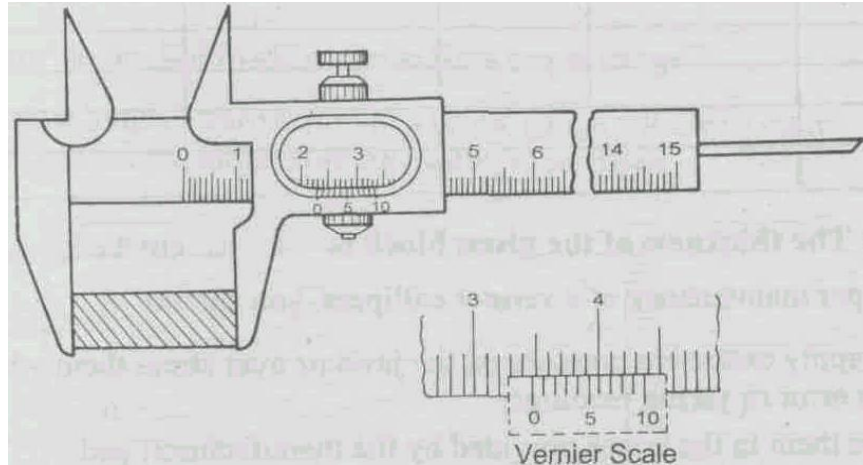

Fig.1.6 Measurement of the thickness of a block with a vernier callipers
Before you perform the actual experiment, it is important for you to be familiar with a vernier callipers (Fig. 1.6). In Unit 4 of the course Basic Apparatus in Physics, you have learnt about it in detail. You should re-read the relevant section of the unit and do the following activity:
3. Hold the block/bob between the jaws, as shown in Fig. 1.6.